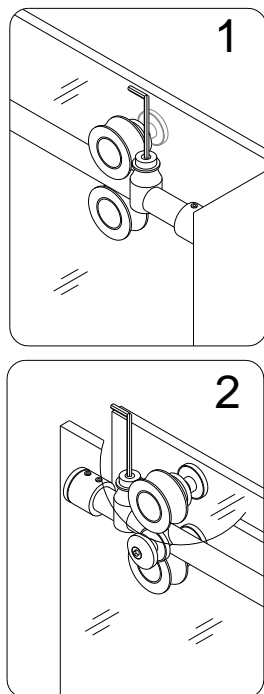

Fig. 15
11. Adjust both **Stoppers (01)** to ensure that they are positioned upright and the door is in its maximum opening and closing range. Secure it in place. See fig. 15 for details.